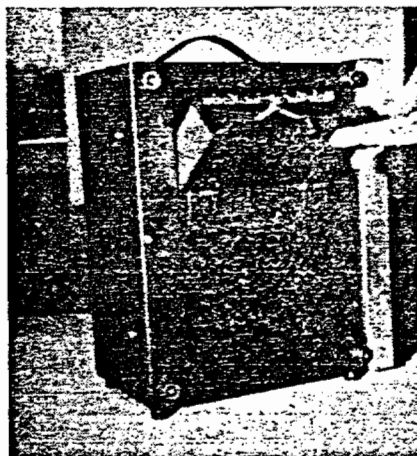

Figure 3—Cable Compartment Location
17. CABLE COMPARTMENT RELEASE. A compartment for test leads and RF cables is located on the bottom of the 1074 Television Analyst. (See Fig. 3) Access to this compartment can be obtained by standing the instrument on end. Pull on the black plastic knob and the compartment will come open and tip downward. The hinges are of the come-apart type so that the compartment can be removed when it is completely open and then lifted up slightly. Access to the primary line fuse can be obtained through this compartment.